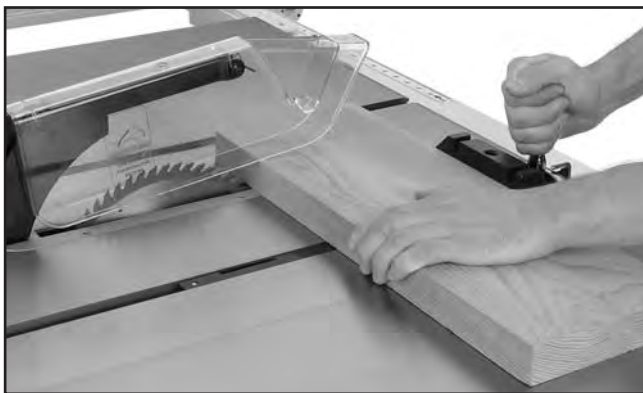

Figure 60. Typical crosscutting operation.
7. Hold the workpiece firmly against the face of the miter gauge (**Figure 60**), and ease it through the blade until the workpiece is completely past the saw blade.